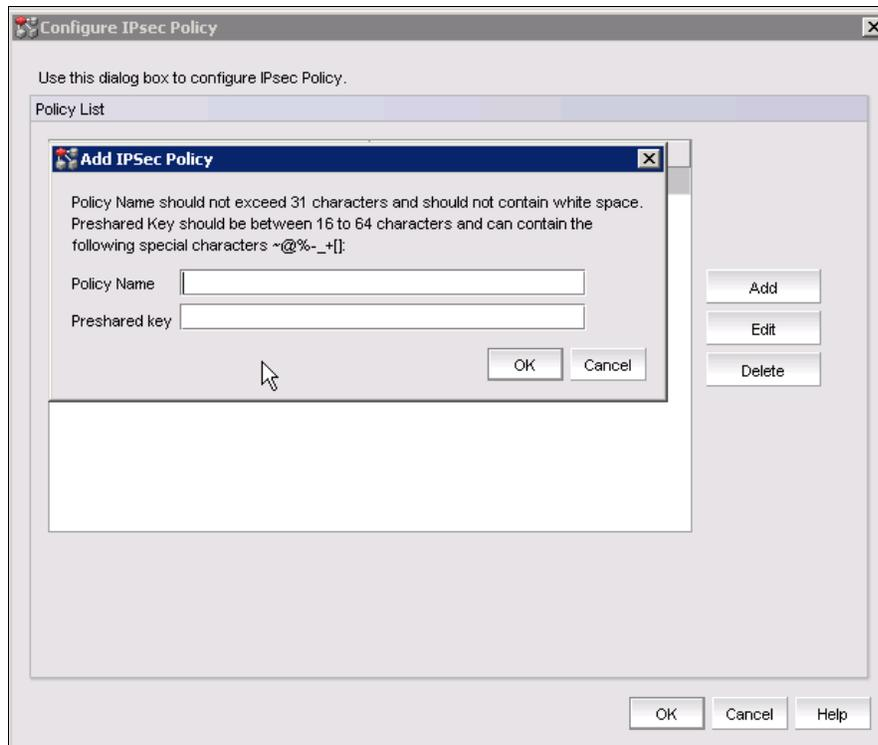

Figure 4-17 Create an IPsec policy
6. Enter the name and preshared key for the new policy. The preshared key should be 16 - 64 characters (Figure 4-17).